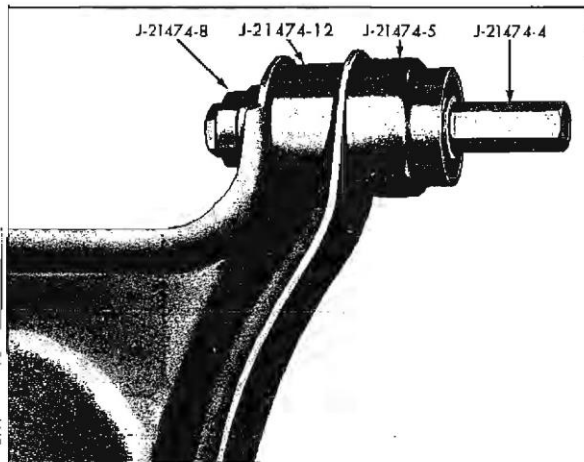

Fig. 3-18 Removing Rear Bushing from Front Lower Control Arm
3. Remove bushing, using tool J-21474 as shown in Fig. 3-18.